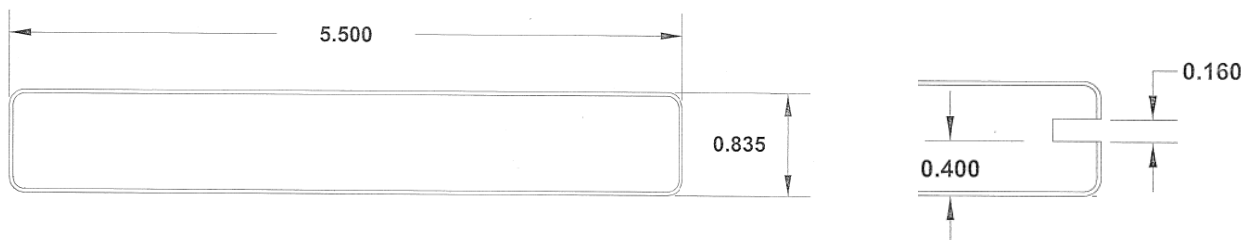

Figure 3 – Deckorators® Vault and Frontier Deck Board Profiles
3.2.3. *Deckorators® Vault* and *Frontier* deck boards are provided with nominal dimensions of 5.5" wide and 0.835" thick. See Figure 3.